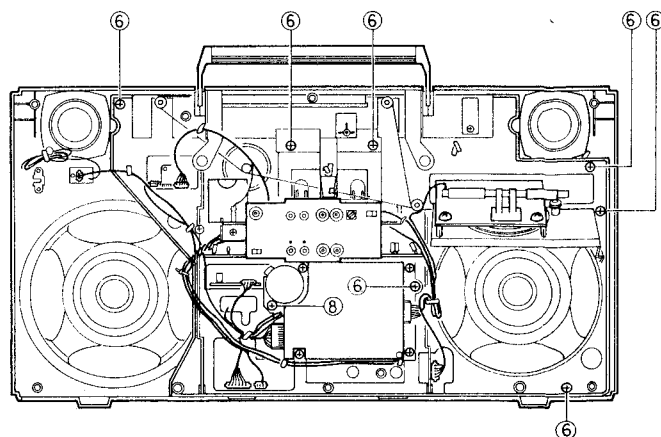

Fig. 7
**D. Mechanical unit (How to remove directly from the front cabinet) (Fig. 7, 8)**
1. Remove 4 screws (7) – SBSF3010V.
2. Remove a screw (8) – SBSF3030V.
3. Remove wire connectors (B), (D) ~ (F) and (1).